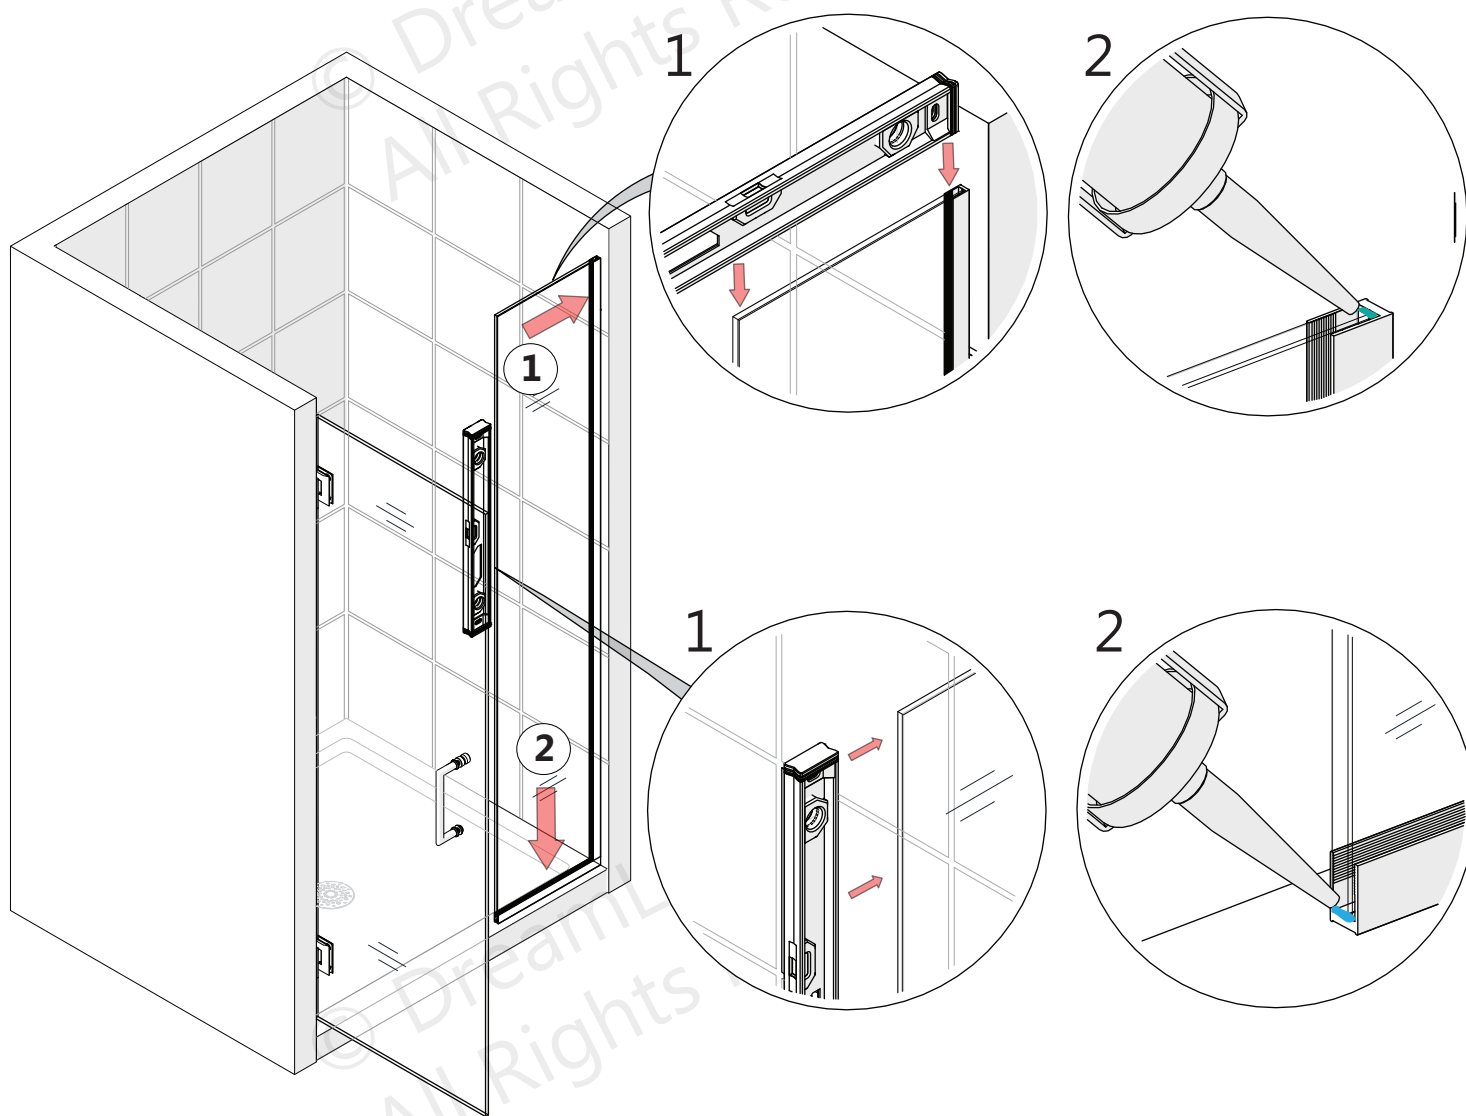

Fig 10
10. Install the **Panel Glass (#11)** into the **Vertical U-Channel (71") (#09)** and then slide it down into the **Bottom U-Channel (34") (#29)**. Apply a dab of silicone to the exposed end of the **Bottom U-Channel (34") (#29)**. (Fig 10)